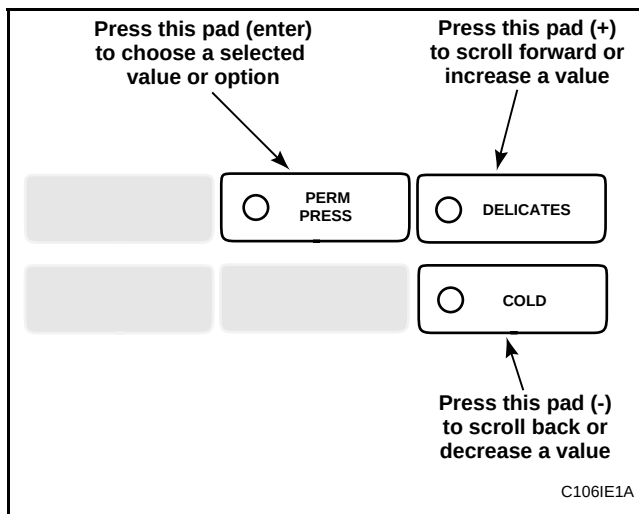

Figure 21
5. Press the DELICATES (+) or the COLD (-) keypad to increase or decrease the current hour to the desired hour. See **Figure 21**.